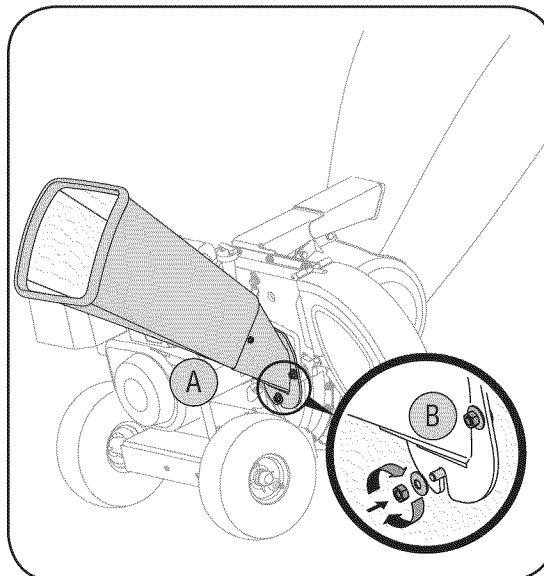

Figure 3-6
b. Secure chipper chute with the three cupped washers (cupped side against the chipper chute) and hex nuts previously removed. Do not tighten the nuts at this time. See Figure 3-6.